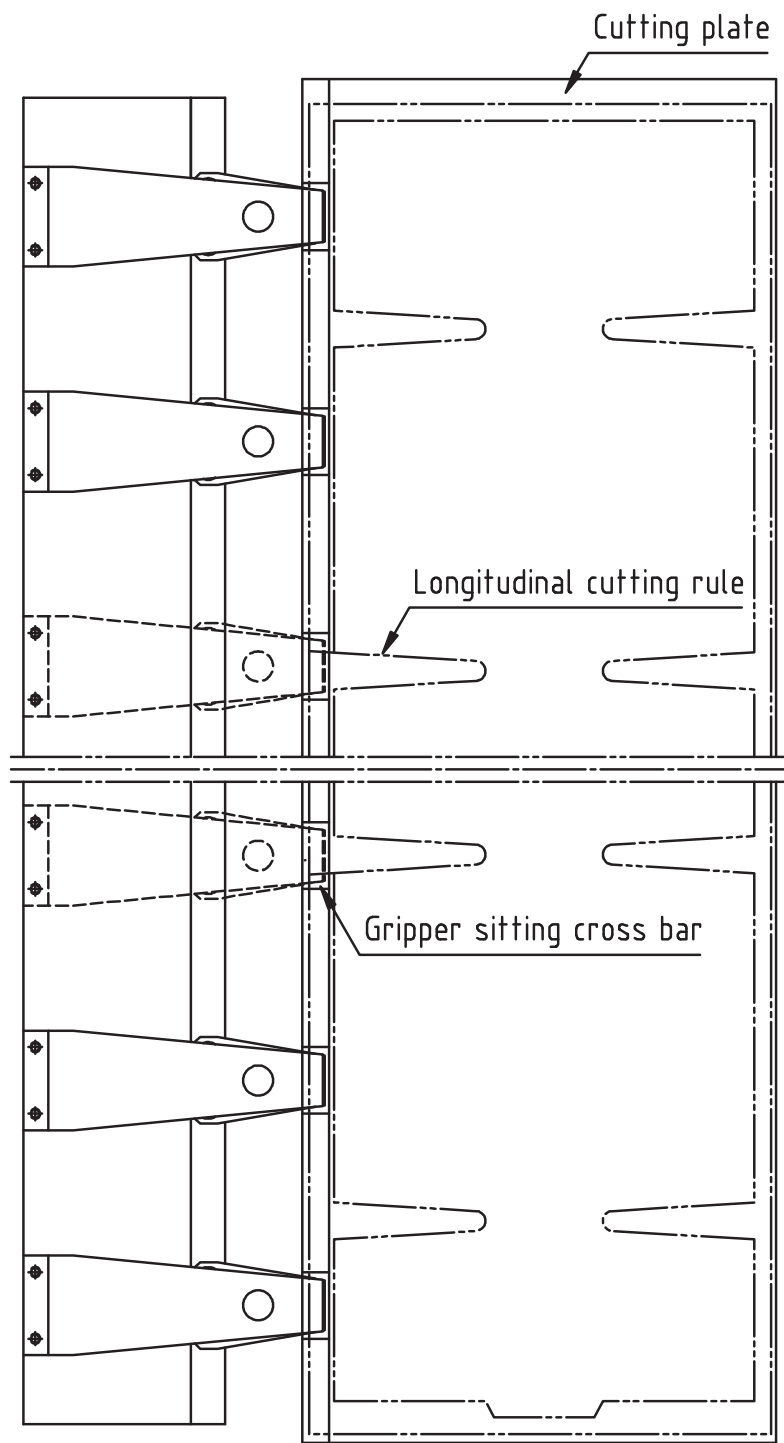

Fig 6.19
- 2) Remove the up gripper springs and gripper seats off the gripper bars to where the cutting knife will locate and to fit gripper tip filler PB20312 to the notch. (Fig6.19)